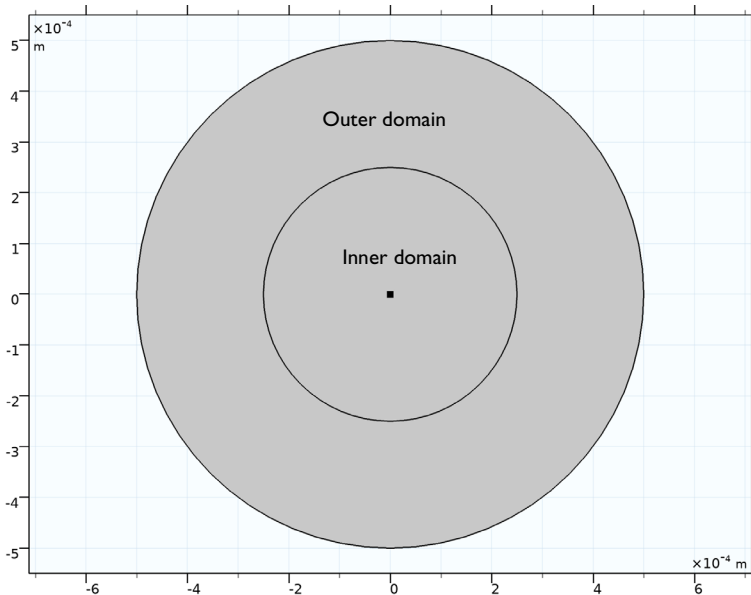

Figure 1: Model geometry. The concentration is initially a delta function at (0,0) and the particles are all released at (0,0) with an initial velocity of zero.
The model geometry consists of two concentric circles as shown in Figure 1. The initial concentration diffuses from the origin radially outward in all directions. After 100 seconds, some of the initial concentration has diffused from the inner circular domain to the outer domain. The transmission probability for diffusion from the inner domain to the outer domain is defined as:
- 3 Click the  **Zoom Extents** button in the **Graphics** toolbar. The geometry should look like Figure 1.